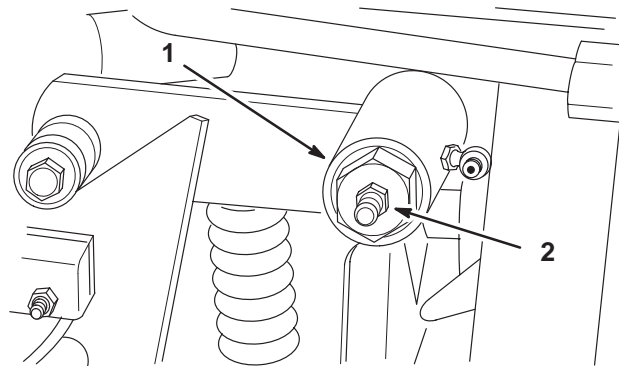

Figure 27
- Loosen the locknut on the traction adjustment cam (Fig. 27).
- Start the engine and rotate the cam hex (Fig. 27) in both directions to determine the mid position of the neutral span.